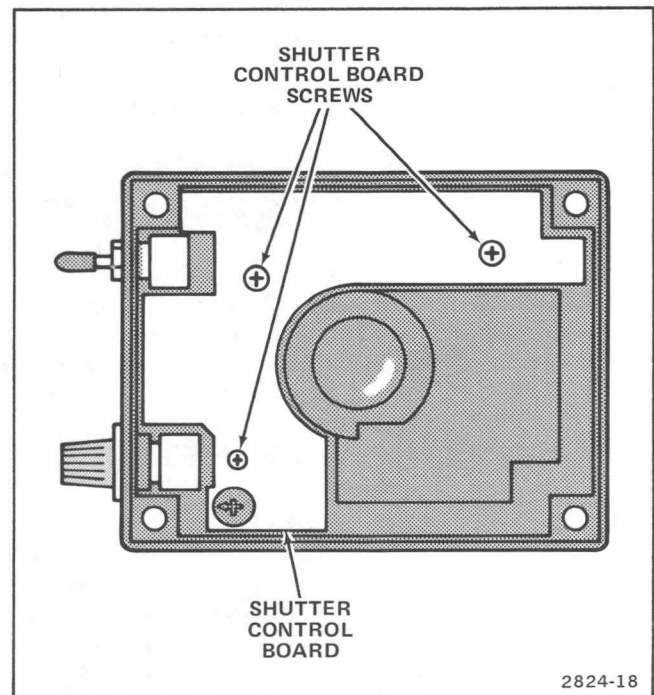

Figure 5-7. Removal of shutter control board.
4. Remove the three screws and holding nuts on the shutter control board (see Figure 5-7).